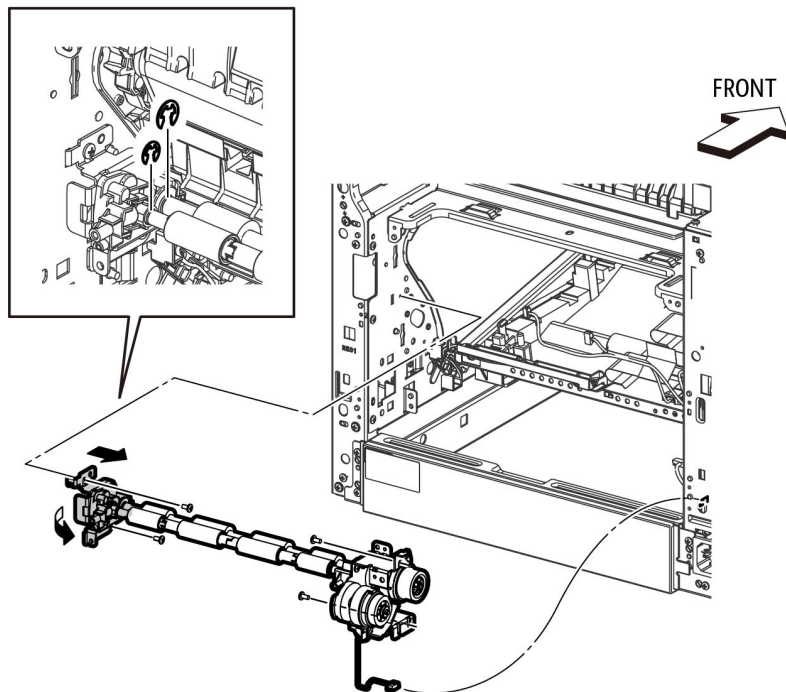

Figure 1 Remove the Duplex Registration Roller Assembly
2. Refer to Figure 1 to unplug the connector P/J541.
3. Refer to Figure 1 to remove the two E-rings of the Duplex Registration Roller Assembly.
4. Refer to Figure 1 to remove the four screws (silver, M3x6mm).
5. Refer to Figure 1 to slide the Duplex Registration Roller Assembly in the direction of the arrow, and remove the roller assembly.